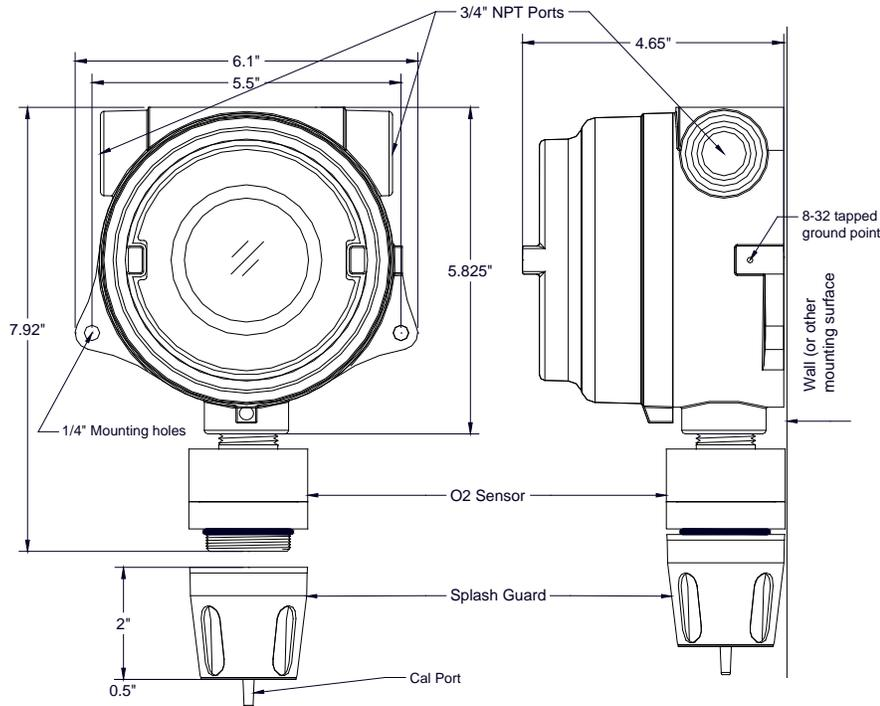

Figure 7 Typical Outline and Mounting Dimensions
- b) Securely mount the sensor junction box in accordance with recommended practice. See dimensional drawing (Figure 7).